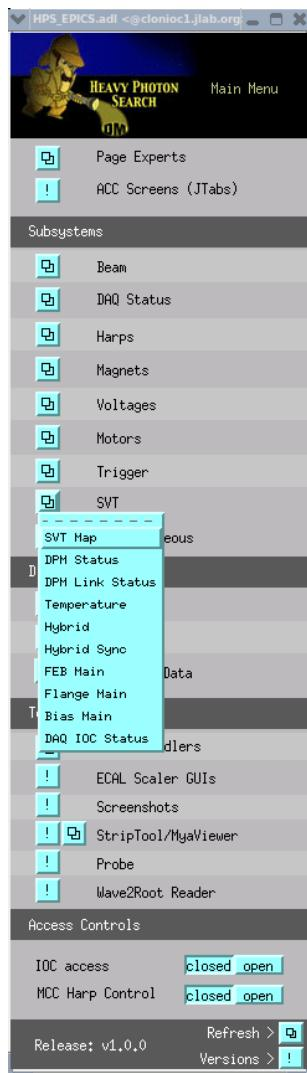

Figure 4: HPS EPICS main GUI.
2. Open a terminal and issue `hps_epics dev` command to open the main HPS GUI. Figure 4 show the SVT part of the GUI open.